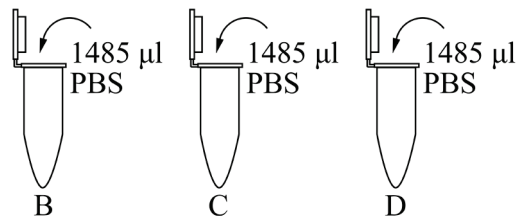

Fig. 7
4. Use the P1000 micropipette, pipette 1485 μl [#] PBS for each of the 2.0 ml micro-centrifuge tubes (Fig. 7).